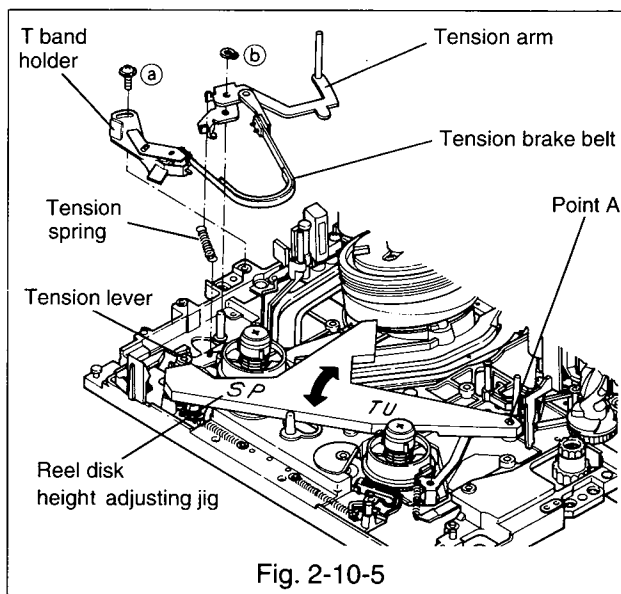

Fig. 2-10-5
- F. Assemble the tension arm to the shaft and secure the arm with the grip ring (b). (Refer to Fig. 2-10-5.)
- G. Fasten the tension spring to the tension arm and the tension lever. (Refer to Fig. 2-10-5.)
- H. Assemble the T band holder to the main plate with care not to score or dirty the tension brake belt, and secure the holder with the screw (a) lightly. (Refer to Fig. 2-10-5.)